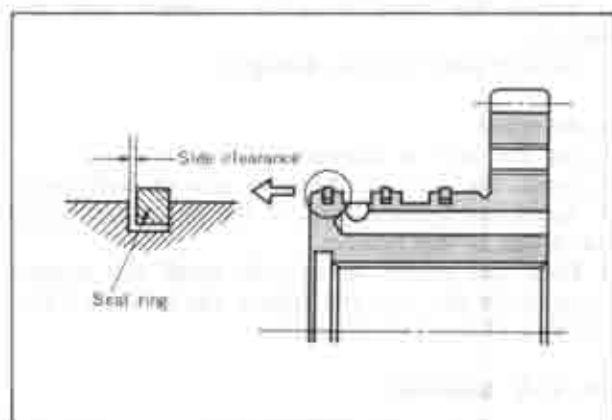

Fig. 7B-40 Clearance of oil seal ring
4. Check the side clearance between the seal ring and groove, as shown in Fig. 7B-40. This clearance should be  $0.04 \sim 0.16 \text{ mm}$  ( $0.002 \sim 0.006 \text{ in.}$ ). To remove the seal ring, squeeze it up so that its joint will rise above the groove and disconnect the joint.